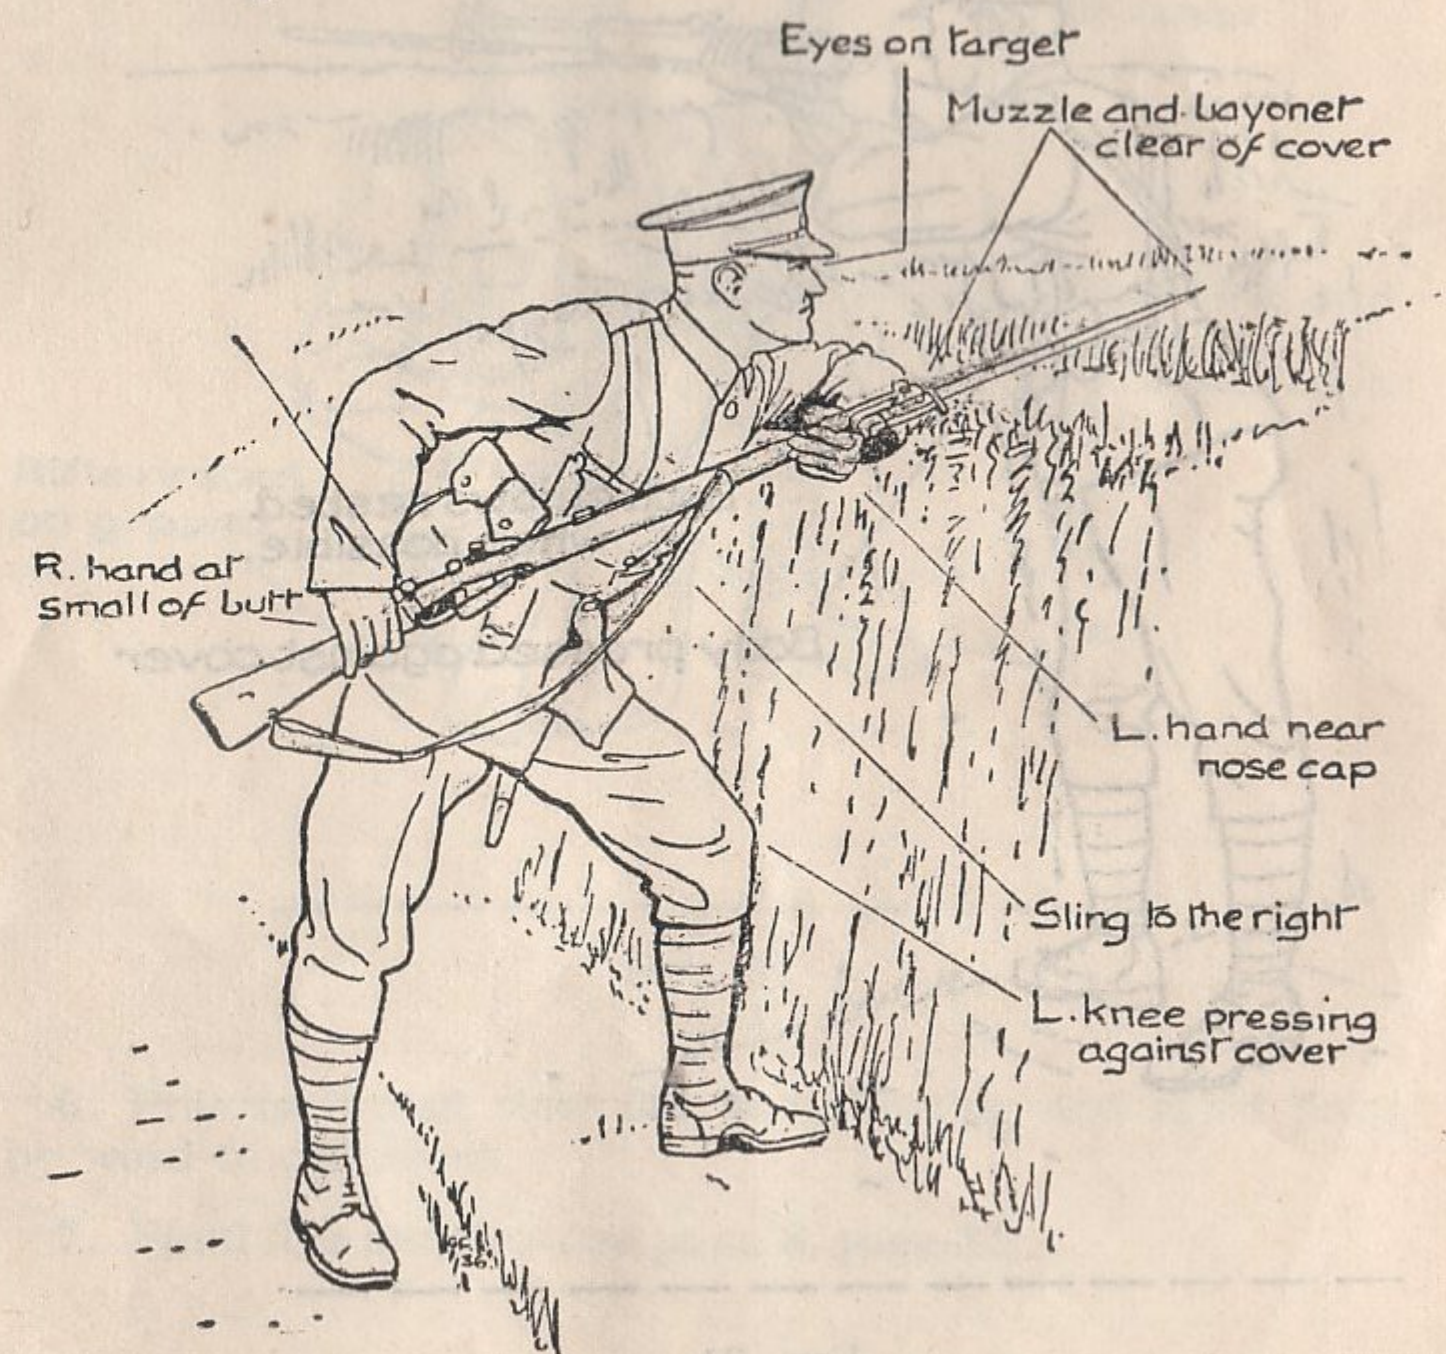

FIG. 30.
- ii. *Sight setting and position of readiness.*—As for kneeling—Lesson 21 (see Fig. 30).